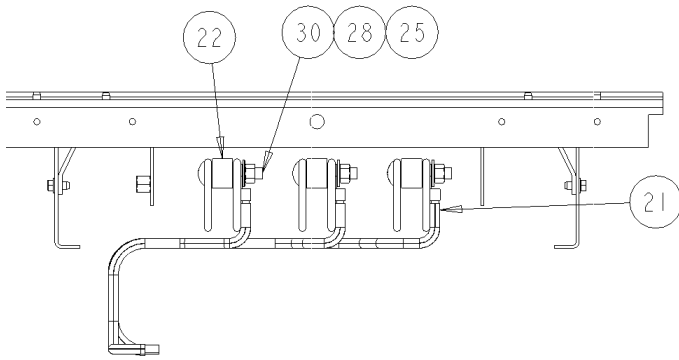

Figure 6. Plug-in assemblies without .281-inch square holes. (Interior spools are not shown for clarity)
- *Plug-in assemblies and powerpanels without .281-inch square holes (double bus).* For each phase, slide a spacer [22] between the vertical bus bars and install a 3/8-16 x 2" carriage bolt [30] into a .406-inch square hole located towards the rear of interior vertical bus, as shown in Figure 6. Use the uppermost holes in the 7X (9⁵/₈") space that the TVSS unit can reach. Slide a terminal of the cable assembly [21] onto each carriage bolt. Install a 3/8" spring washer [25] and a 3/8-16 nut [28] onto each bolt and tighten to 200 in-lb.